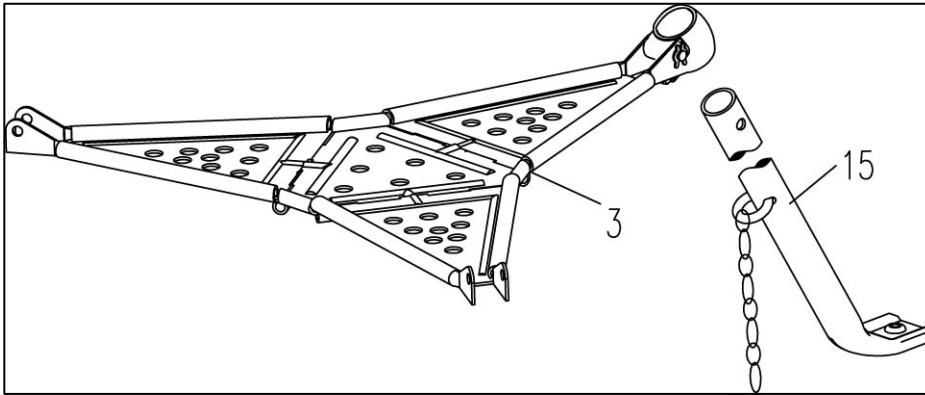

FIGURE 1
- **Step 1)** Insert rear leg assembly (part no. 15) into tray support (part no. 4) as shown in Fig 1. Tighten the set-screw (part no. 13) lightly at this time.